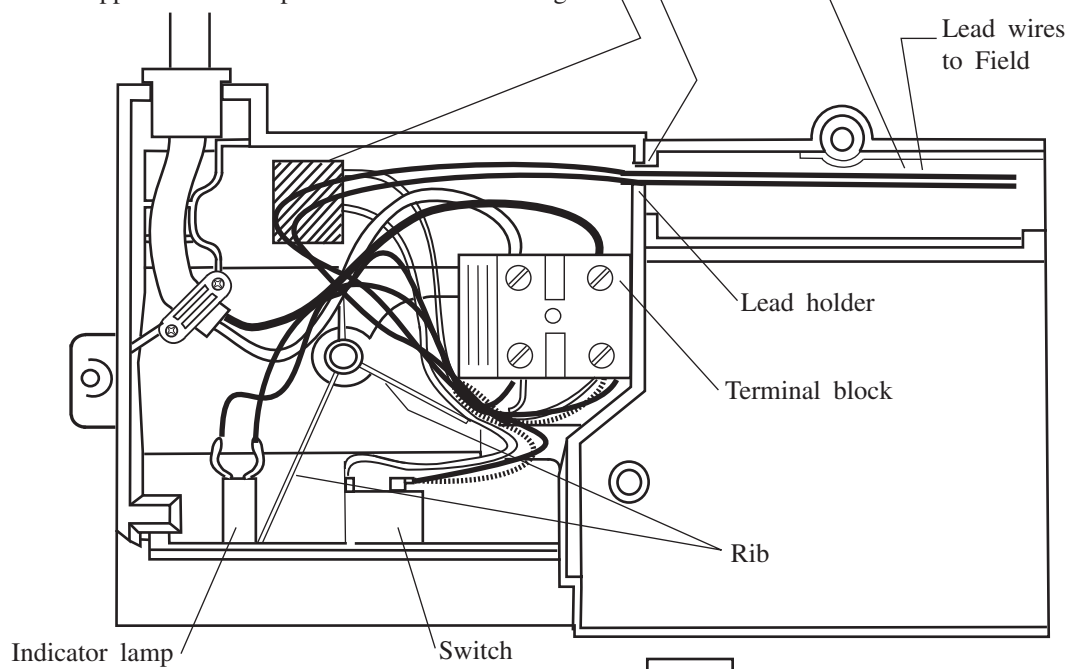

Fig.12
(3) Lead wire to field has to be set so careful that they would not be pinched by ribs as illustrated in Fig.12.
Set noise suppressor in the position illustrated in Fig.12.